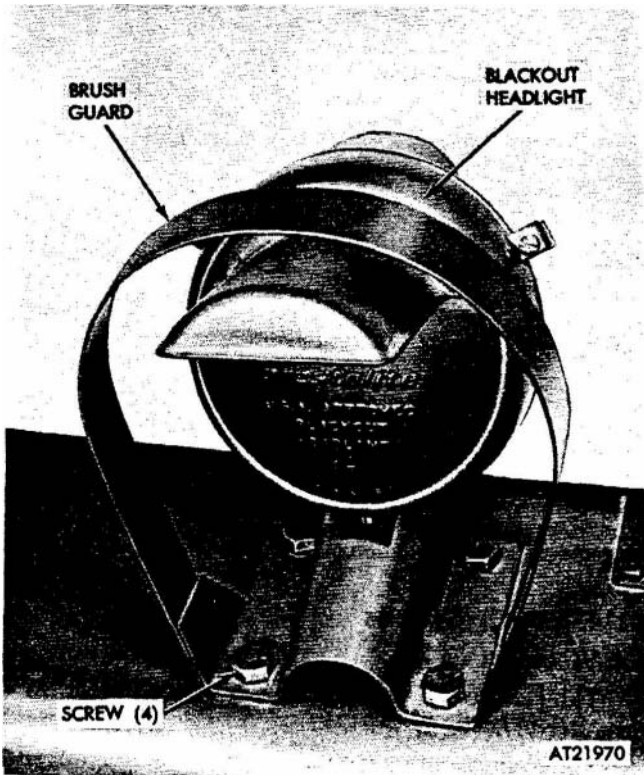

Figure 2-318. Blackout headlight brush guard, removal and installation.
- (3) Remove blackout headlight assembly (refer to para 2-102). Remove four screws and nuts securing headlight brush guard to vehicle (fig 2-318 I).
(1) Position blackout headlight brush guard to mounting holes on vehicle and secure with four screws and nuts (fig 2-318). Install headlight (refer to para 2-102).